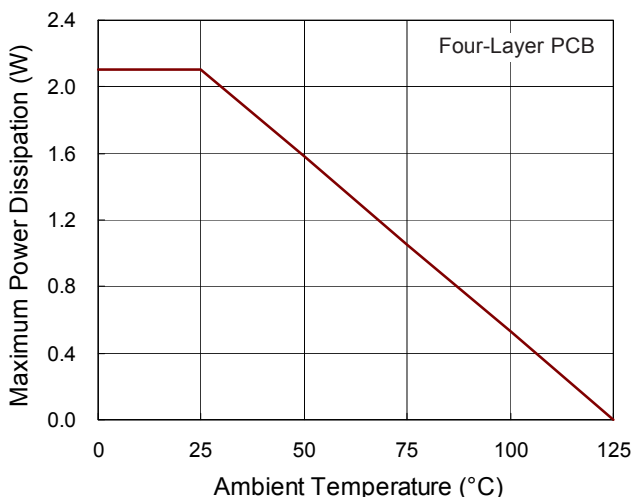
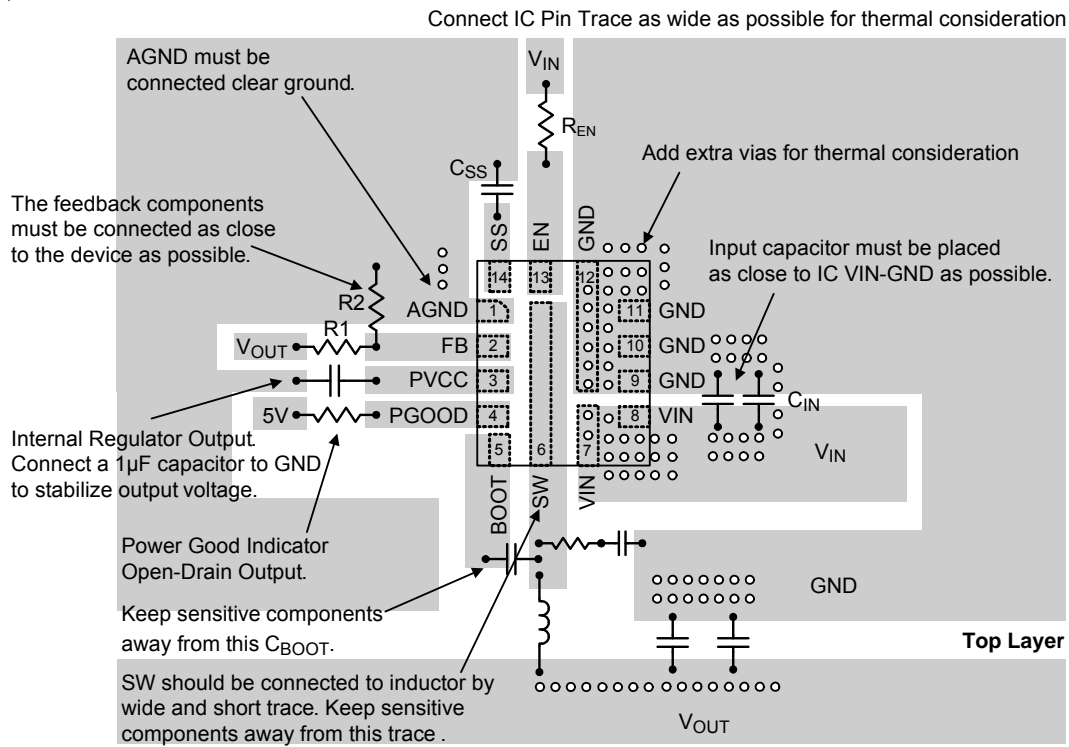

Figure 8. Derating Curve of Maximum Power Dissipation
Figure 9. PCB Layout Guide (Top Layer)
The maximum power dissipation depends on the operating ambient temperature for fixed $T_{J(MAX)}$ and thermal resistance, θ_{JA} . The derating curve in Figure 8 allows the designer to see the effect of rising ambient temperature on the maximum power dissipation.
- ▶ An example of PCB layout guide is shown in Figure 8 and Figure 9 for reference.